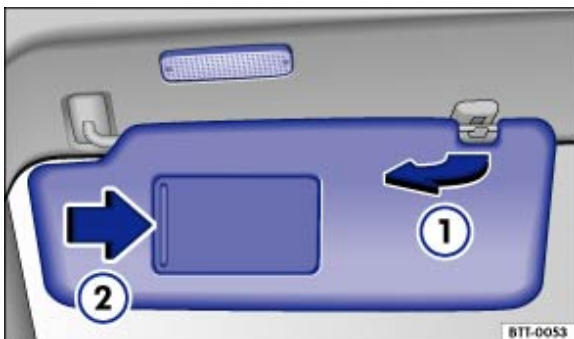

Fig. 89 Sun visor
- Pulled out of the bracket and swung over towards the door → Fig. 89 .
When the sun visor has been folded down, a make-up mirror can be found behind a cover. When you open the cover → Fig. 89 , a lamp lights up.